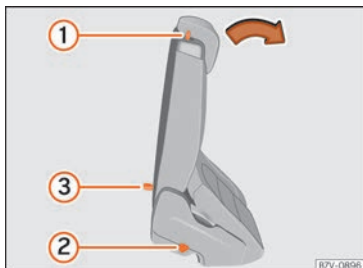

Fig. 162 Second seat row: accessibility controls.
- Remove any objects located in the footwell of the second row of seats, where applicable »» ❶.
- Push the lever »» Fig. 162 ❶ forwards and fold the backrest of the rear seat. This seat folds forward completely »» ⚠ and can still be moved further forward.
- Make sure that the rear seat is securely engaged so that the seat belts can provide proper protection in the rear seats. The red mark »» Fig. 162 ❷ should no longer be visible »» ⚠ in **Folding down rear seats to create load space on page 160.**
- If the lever »» Fig. 162 ❶ does not work, e.g. after an accident, the seats on the second row can be folded forwards from the third row to allow vehicle occupants of the third row of seats to get out of the vehicle »» ⚠.
- Pull the handle »» Fig. 162 ❸ back and fold the backrest of the rear seat. The complete rear seat folds forward »» ⚠.
- A red mark on the side of the seat »» Fig. 162 ❷ indicates that the seat backrest is not engaged. The mark is no longer visible when it is correctly engaged.